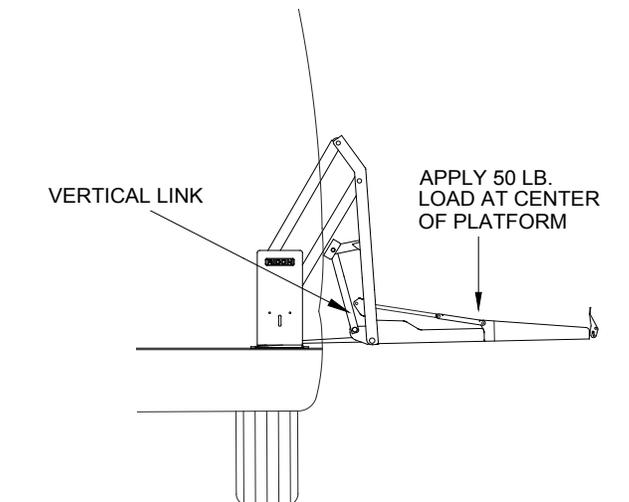

FIGURE 2-17: PRESSURE SWITCH TEST AT FLOOR
- a. Refer to **Figure 2-17**. Deploy and lower platform to ground. Place a 50 lb. load in center of platform and then raise platform to floor level. Press and hold STOW switch.